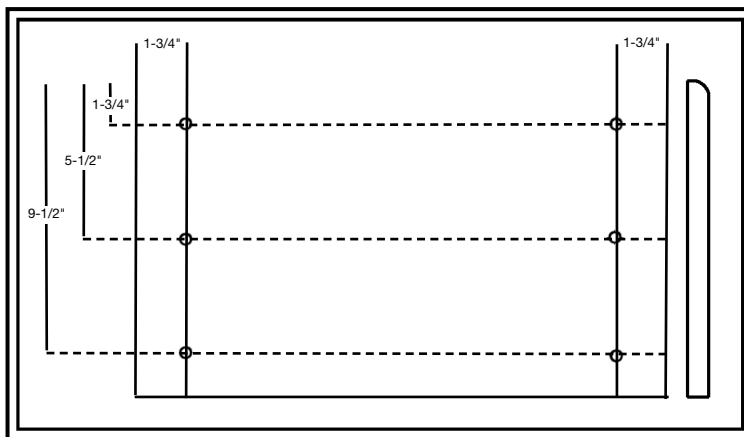
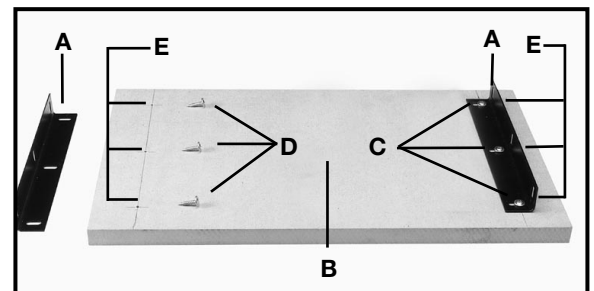

Fig. 2
Fig. 3
1. The table boards will require drilling six (6) 3/8" diameter x 3/8" deep holes in the bottom of the each board at the locations illustrated in Fig. 2 and shown as (E) Fig. 3.
2. Position the angle brackets (A) Fig. 3 on the table board (B) and over drilled holes. Place the rounded slots (C) against the board, over the holes. Fasten the angle brackets in place using six wood screws (D). Fasten the other angle brackets to the other table board in the same manner. **NOTE: Do not tighten screws all the way, because of further adjustments later.**
8. Adjust the angle brackets that were not completely tightened in Instruction #2 (A) Fig. 3, until the support arms (A) Fig. 9 fit against the support brackets (B) Fig. 9. Tighten the six (6) wood screws that attach the angle brackets to the table board. Repeat for the other table board.